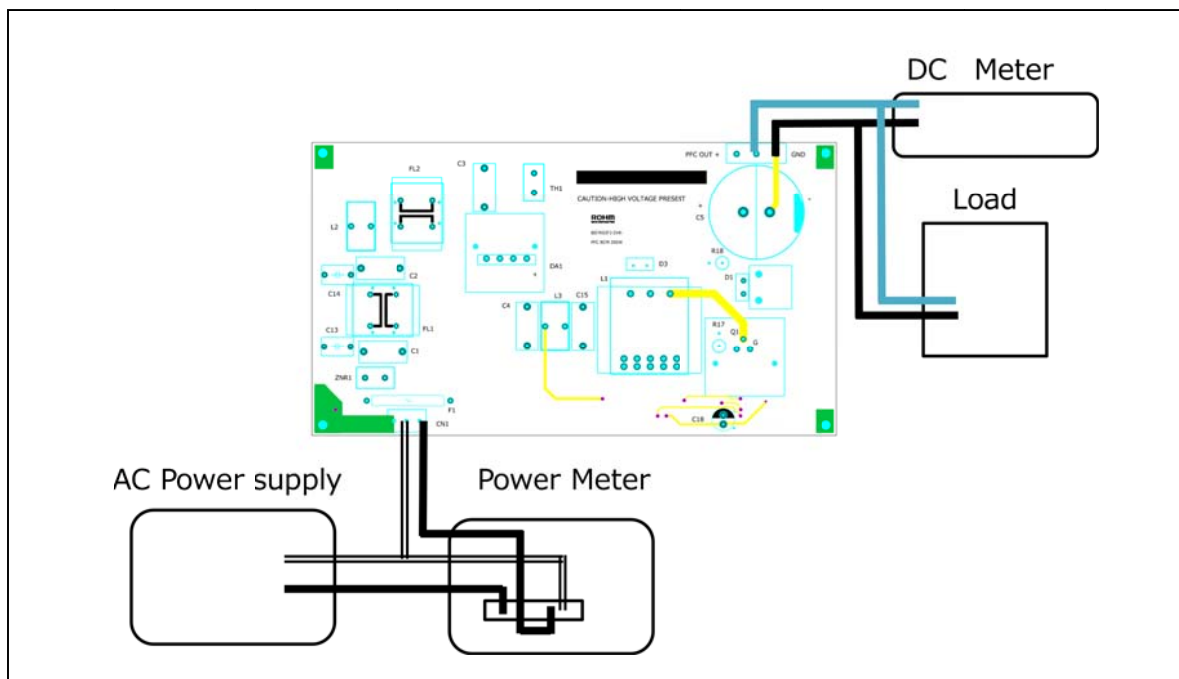

Figure 1. Connection Circuit
3. The reference board connects to measuring equipments and power supplies as in Figure. 1.